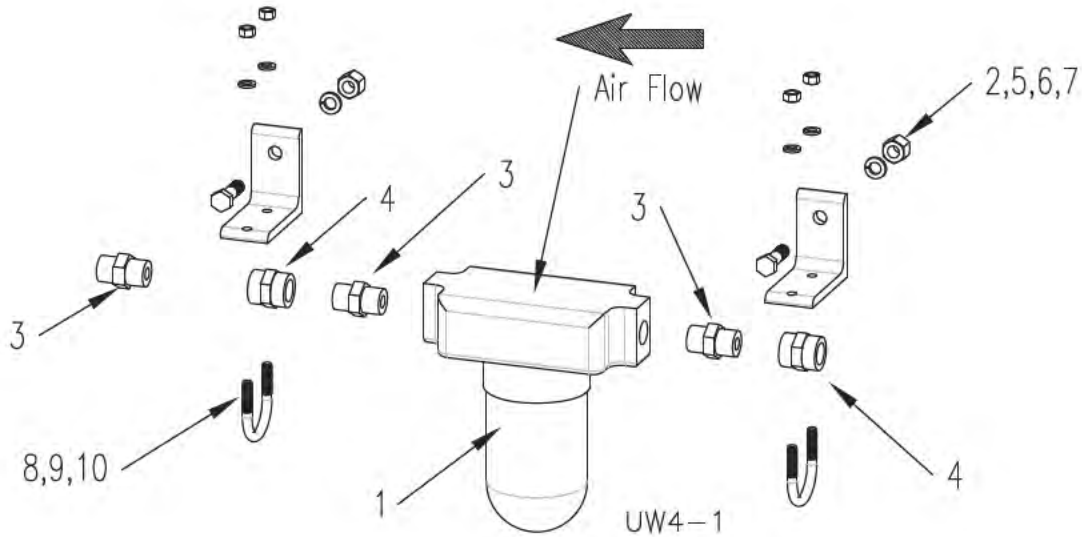

Fig 4-1 Filter Assembly
Refer to Figures 4-1 and 4-2. The filter, pressure switch and gauge are common items included in each underwater kit listed in Table 4.5. The items that cause the kits to be different are shown in Figures 4-3, 4-4 and 4-5. They include the connection hose(s) and the underwater adapter. These components connect to the various (A) ports on the breaker and they differ by location, type and size.